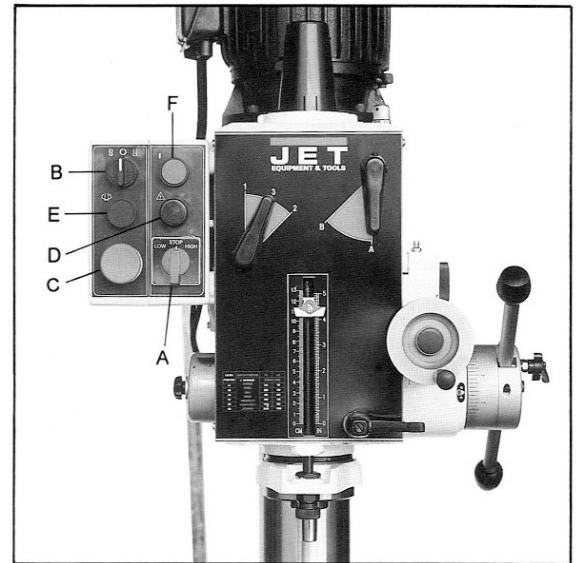
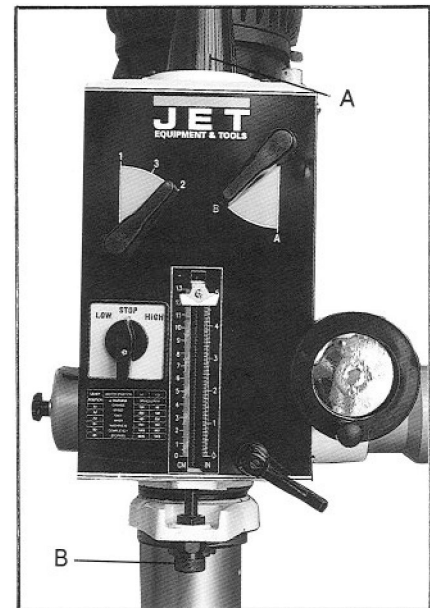

Figure 9A
Figure 11
**Low/Off/High Switch (A, Figure 9A)** Switch between low and high speed range. In the stop position, the spindle is stopped, but the machine still has power.
**Drilling Tapping Selector (B, Figure 9A)** For drilling, press the start switch (F, Figure 9A) to run the machine. **Caution:** The internal depth stop (GHD-20PFT) is used only with the tapping function. Raise the adjusting knob (B, Figure 11) to the top of the depth stop screw so as not to interfere with power downfeed or manual feeding operations. For tapping, turn switch (B, Figure 9A) to tapping position, press down the handle. The quill functions when upper limit switch is released. It then reverses automatically after hitting lower limit switch and will not stop until it hits the upper limit switch.
**Emergency Switch (C, Figure 9A)** Press this switch to stop all operations.
**Power Light (D, Figure 9A)** Indicates power is on.
**Reverse Switch (E, Figure 9A)** If tapping is interrupted press the reverse switch to reverse the tap from workpiece. The button must be held down for continuous reversing.
**Start Switch (F, Figure 9A)** Activates the motor in the drill or tap mode.
3. Remove the main shaft cover (A, Figure 11).
1. Turn the adjusting knob (B, Figure 11) until the correct depth is indicated on the scale on the front of the drill head.
1. Turn the adjusting knob (B, Figure 11) until full travel is possible. Do not use this scale as a reference when drilling. This depth stop is for tapping only and should not interfere with drilling operations.